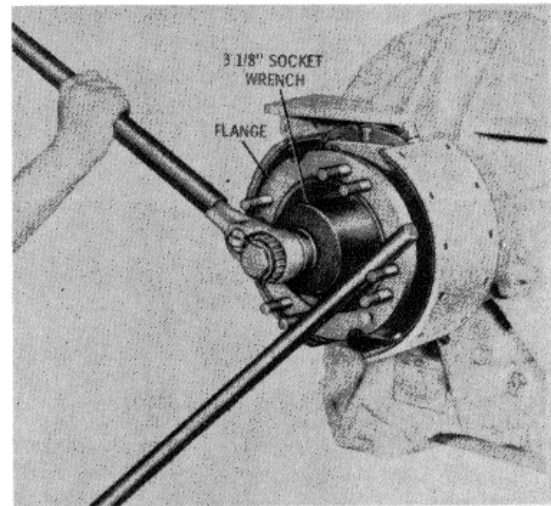
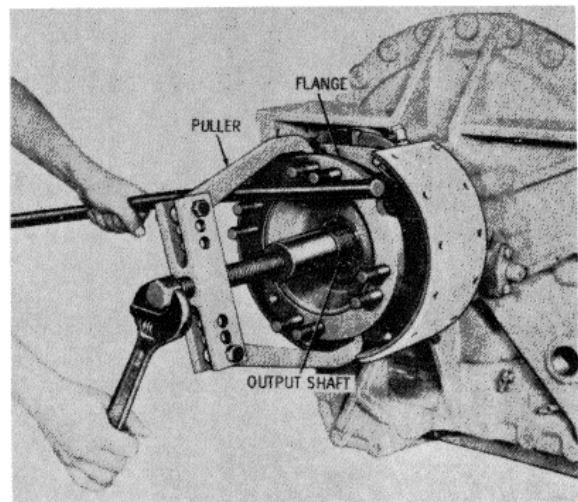

Figure 15-33. Removing Output Flange Nut
Figure 15-34. Removing Output Flange
1. Refer to Retaining Output Flange, and remove the output flanges. Use a 3-1/8 inch socket wrench to remove the nut (Figure 15-33). Using a suitable puller, remove the flange (Figure 15-34).